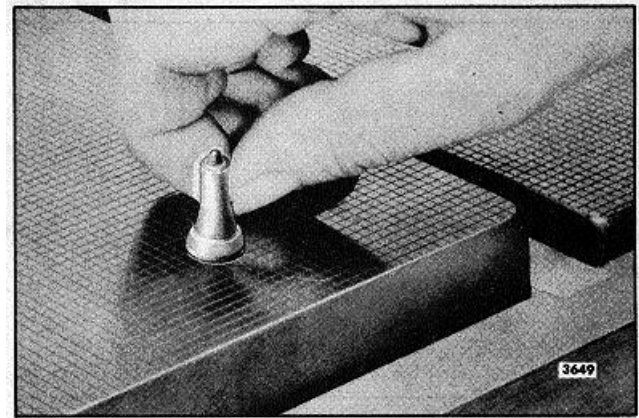

Fig. 33. Lapping Spray Tip on Lapping Blocks J 22090
3. Place the part to be lapped flat on the block as shown in Fig. 33 and, using a figure eight motion, move it back and forth across the block. Do not press on the part, but use just enough pressure to keep the part flat on the block. It is important that the part be kept flat on the block at all times.